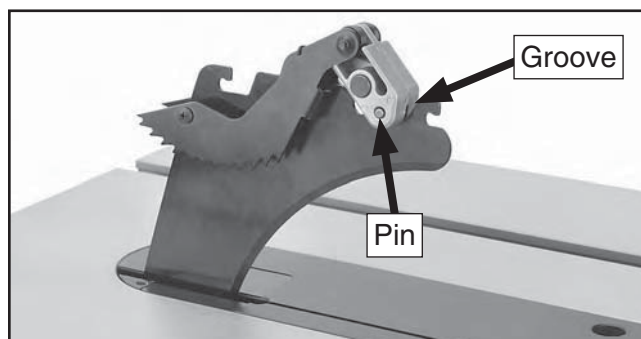

Figure 53. Re-installing pawls.
2. Slide the pin in the pawl block into the second groove from the front of the spreader, as shown in **Figure 53**.